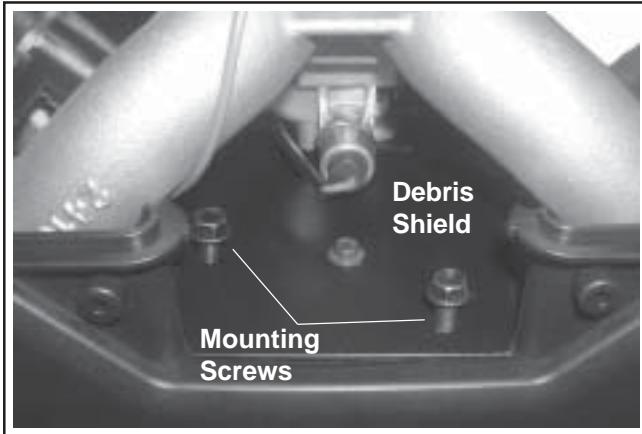

**Figure 9-36. Removing Metal Grass Screen.**
6. On engines equipped with a metal grass screen, remove the screen before removing the blower housing. See Figure 9-36. Plastic grass screens can be removed after the blower housing is removed.